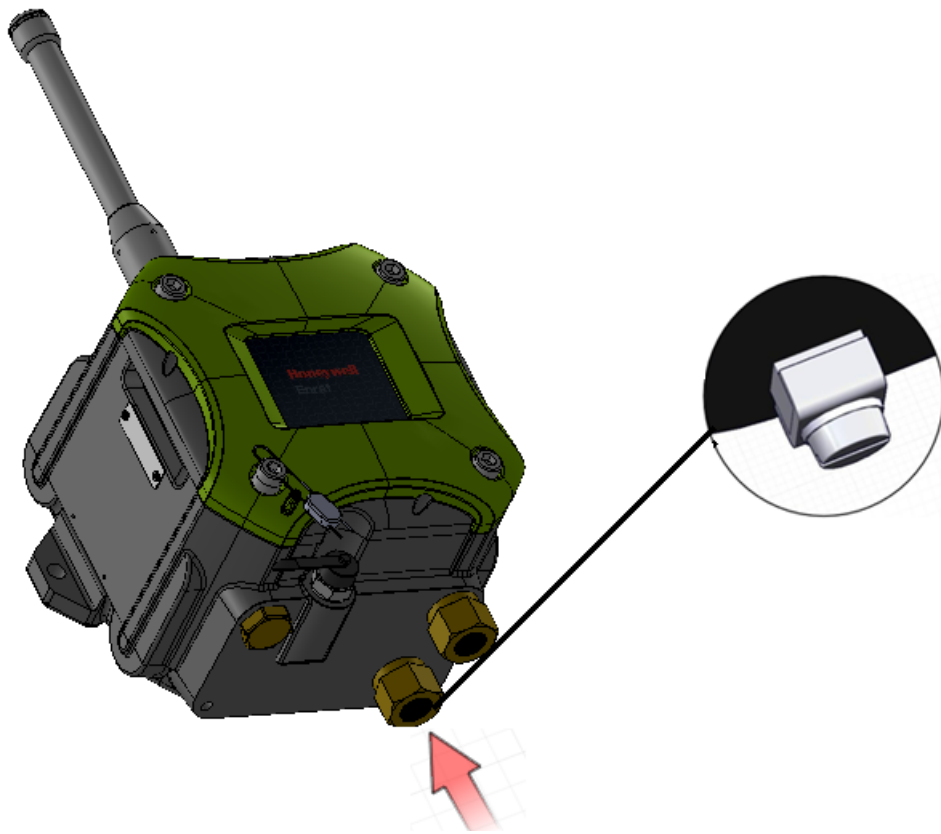

FIGURE 3-5 The grounding connections for the WFI
Make sure the housing of the device is properly connected to ground reference. See FIGURE 3-5.
Inside the enclosure, 2 Protected Earthing (PE) or Mains input earth points and 1 external point is available to connect to the field earth point. See FIGURE 3-5.